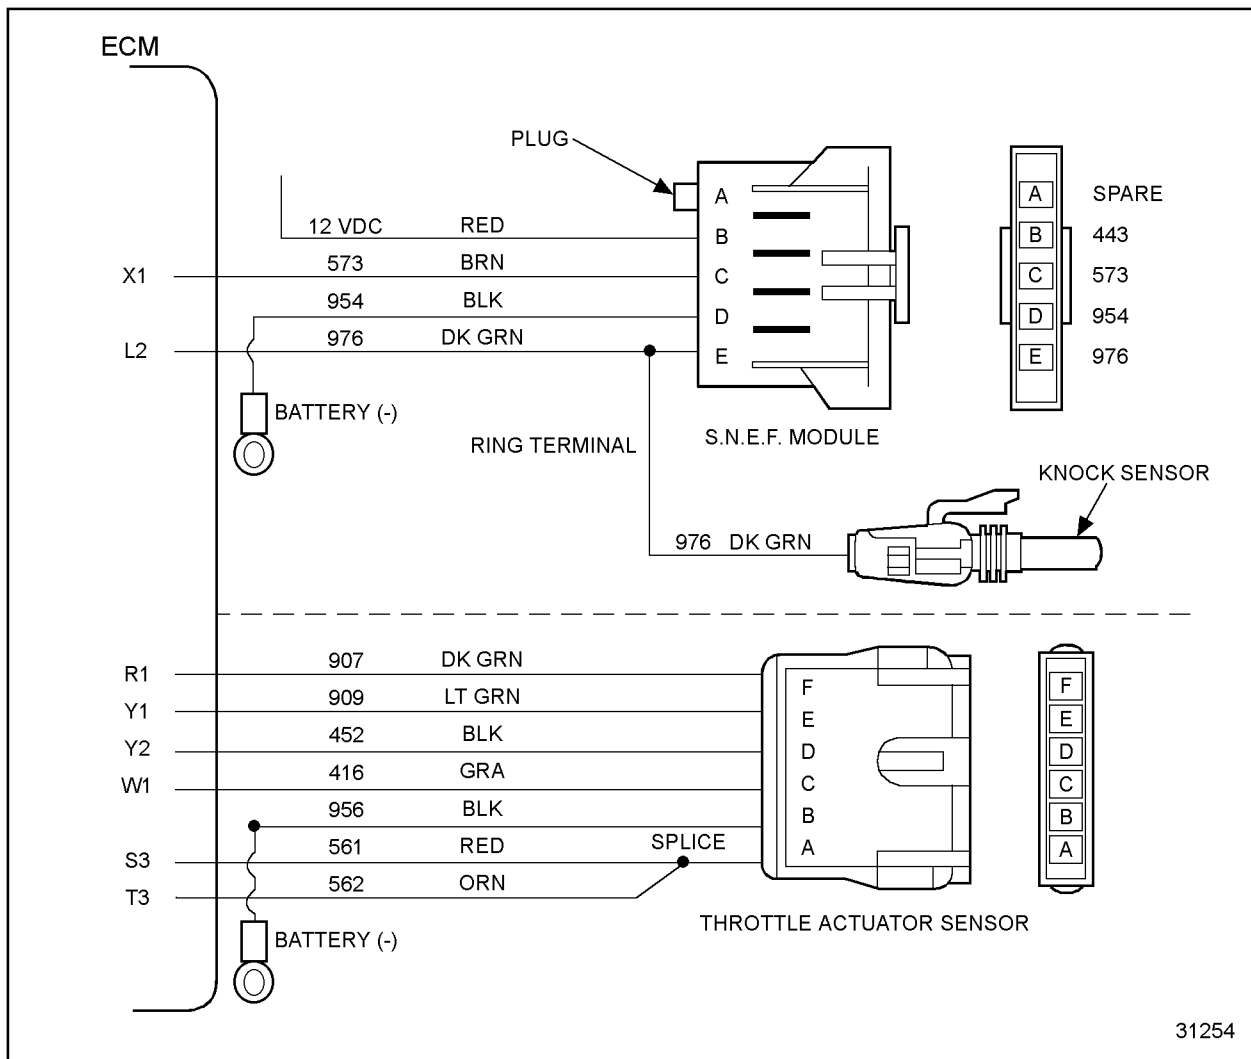

Figure 66-1 Series 50 Gas Engine Sensor Harness
2. Disconnect the engine sensor harness. See Figure 66-1.